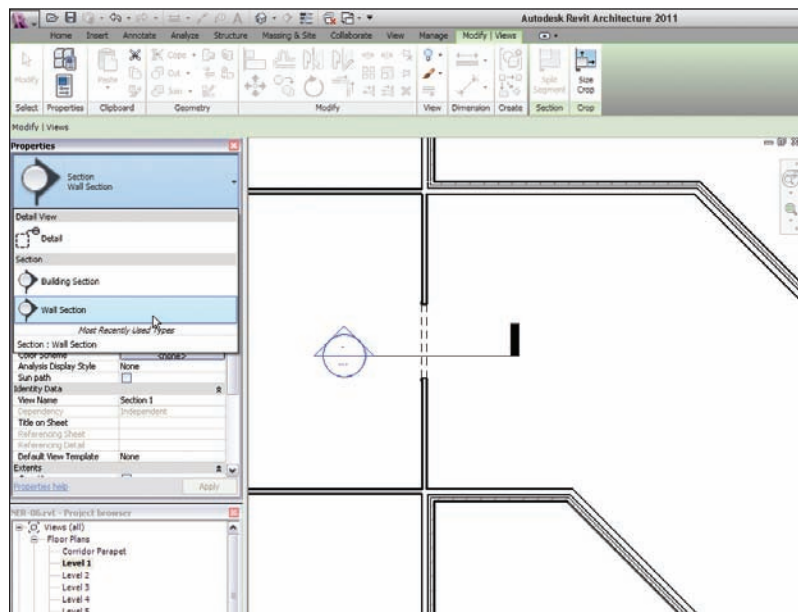

FIGURE 3.52 Changing the type of section from Building Section to Wall Section and adding it to the model
3. In the Properties dialog box, select Wall Section, as shown in Figure 3.52.